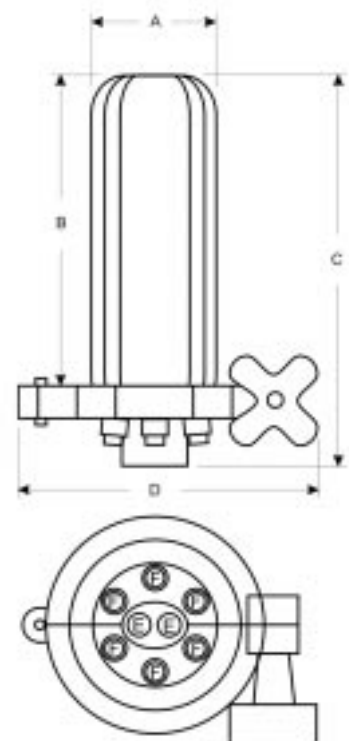

Figure 3-1
**3.02** See Figure 3-1 and Tables 1 and 2 for all outside dimensions and cable entry/exit hole specifications.